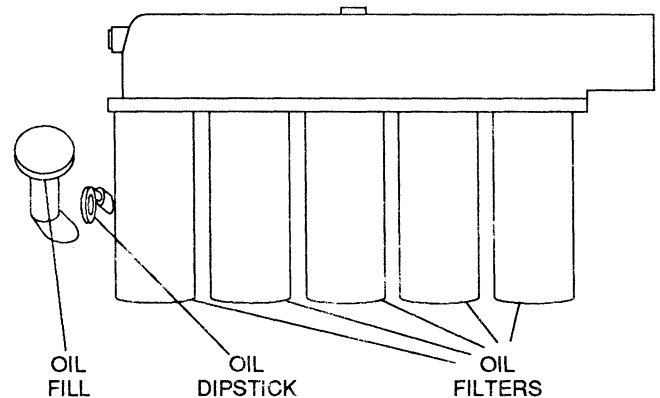

FIGURE 5. OIL FILL AND DIPSTICK LOCATION
Check the engine oil level during engine shutdown periods at the intervals specified in the Maintenance Table. The oil dipstick, fill cap, and filters are located on the same side of the engine (see Figure 5). The dipstick is stamped with high and low marks to indicate the level of oil in the crankcase. For accurate readings, shut off the engine and wait approximately 15 minutes before checking the oil level. This allows oil in the upper portion of the engine to drain back into the crankcase.
3. Unscrew the oil filters and discard. See Figure 5.